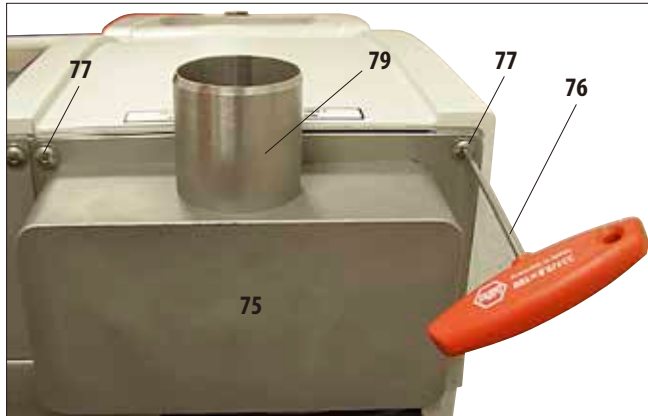
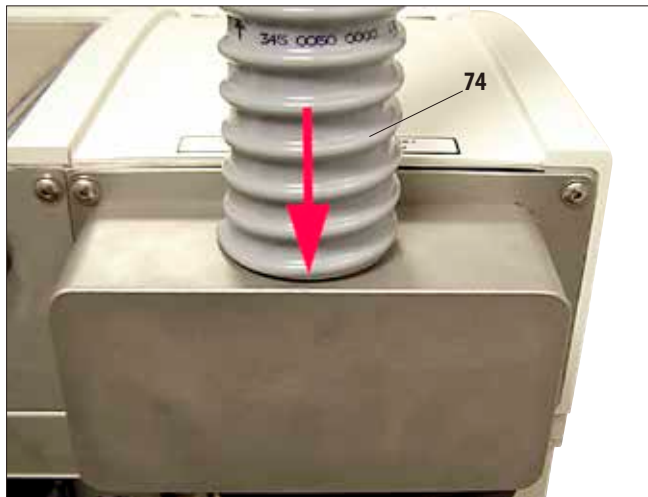

Fig. 23
Fig. 24
- Now attach one end of the exhaust hose (74) to the upwards-pointing tube (79, Fig. 23) of the flange and push it down as far as it will go (Fig. 24).